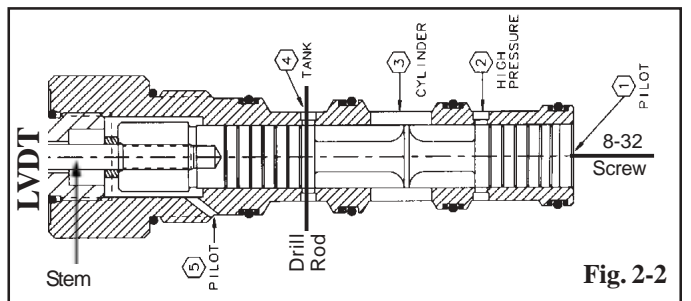

Fig. 2-2
3. Insert appropriate drill rod through slots in port 4 and pull spool against it. Record LVDT DC output voltage, at amplifier text point. Ref. Fig. 2-2.
4. Subtract two (2) voltages recorded in steps 2 and 3 above as follows.